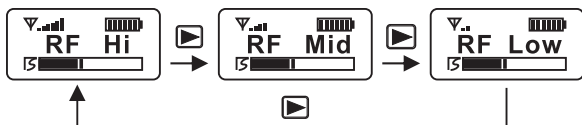

Fig. 11
6. RF Output Power Set-Up, Fig 11:
- (A) Three levels: Hi, Mid or Low.
- (B) Press MODE **11** button until RF mode appears.
- (C) Press SET **12** button once to activate function.